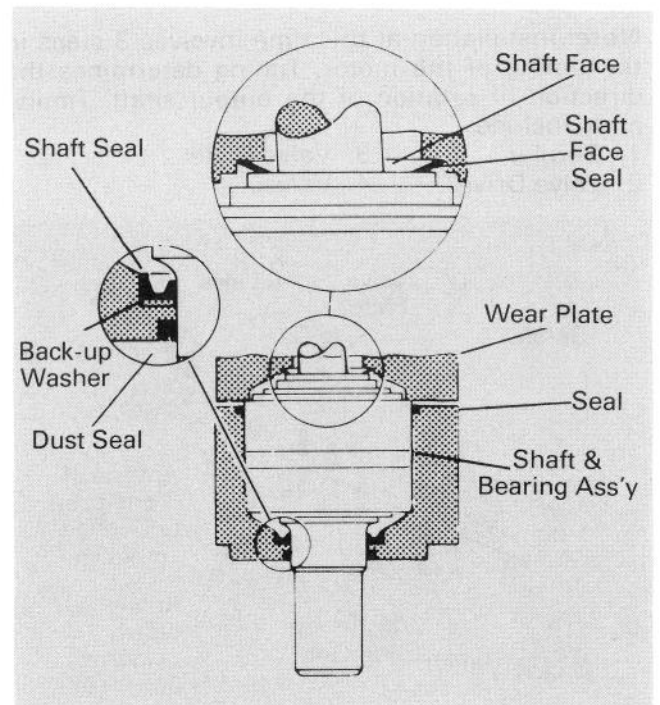

Figure 99
1. Use a press to install dust seal in outer bore of bearing housing. Lip of seal must face outward. See Fig. 99. If a press is **not** available use a plastic or rubber hammer, being careful not to damage or cock seal in the bore.
7. Install the shaft face seal in the wear plate as shown in Fig. 99. Do not distort seal.
8. Install the wear plate (Fig. 99).